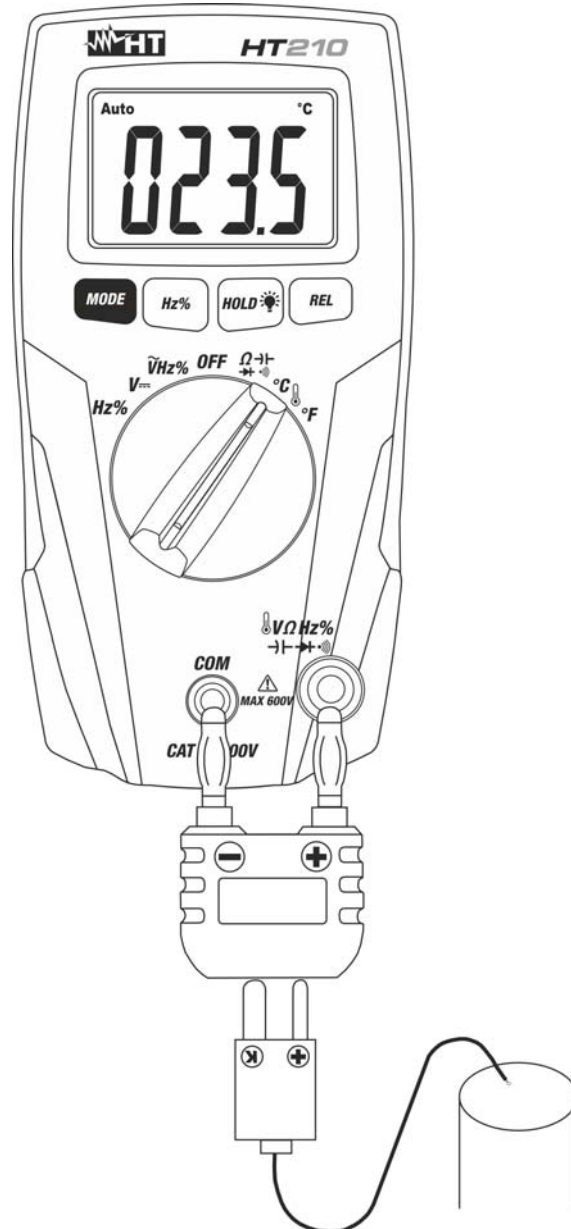

Fig. 8: Using the instrument for Temperature with type K probe measurement
3. Connect the standard bead type K probe or the optional type K probe (see § 7.3.2) into the adapter with respect the correct positive and negative polarity (see Fig. 8) then temperature reading is displayed